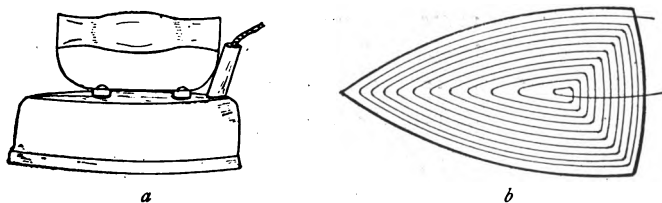

FIG. 206.—(a) ELECTRIC FLATIRON, (b) WIRE GRID
**231. Electric Heaters.** Electric cars are heated by an electric current flowing through coils of wire under the seats. The electric flatiron (Fig. 206) consists of a coil or a grid of wire